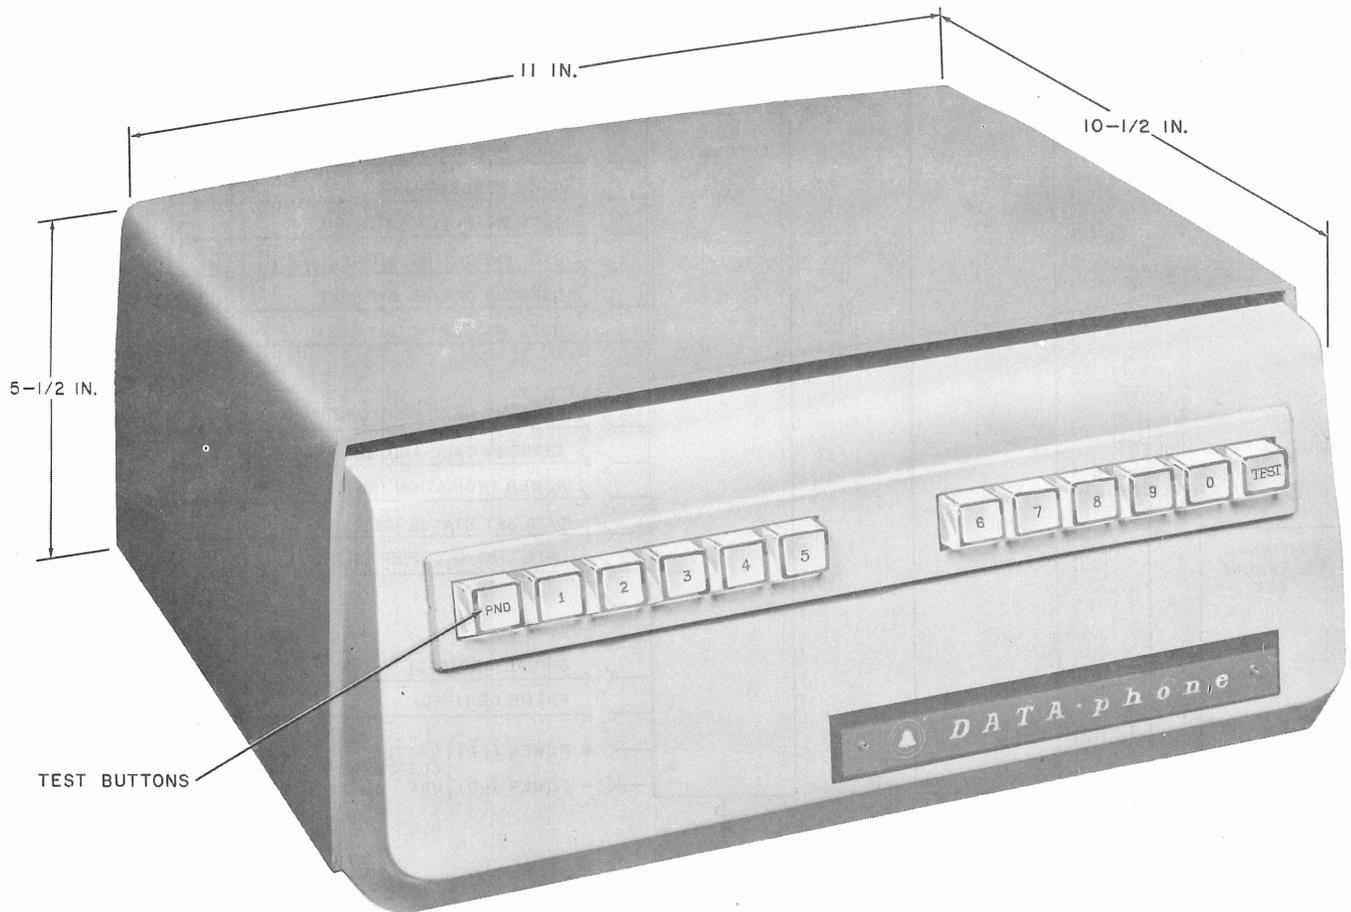

Fig. 1—Data Auxiliary Sets 801C1 and 801C2—Front View
- 1.03** Each of the Data Auxiliary Sets 801C1 and 801C2 (Fig. 1) will be referred to in this section as an automatic calling unit (ACU).
- 2.01** The front panel and the physical dimensions of the ACU are shown in Fig. 1.
2.08 The test buttons (Fig. 1) are used to simulate control signals usually furnished by the business machine.